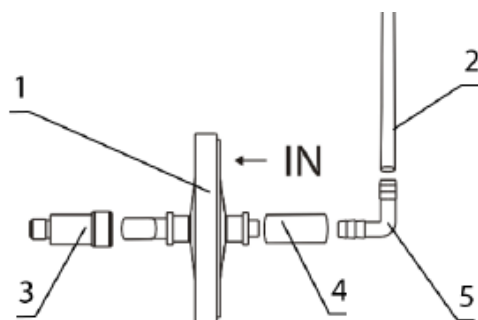
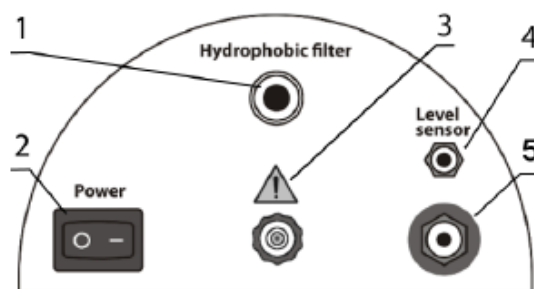
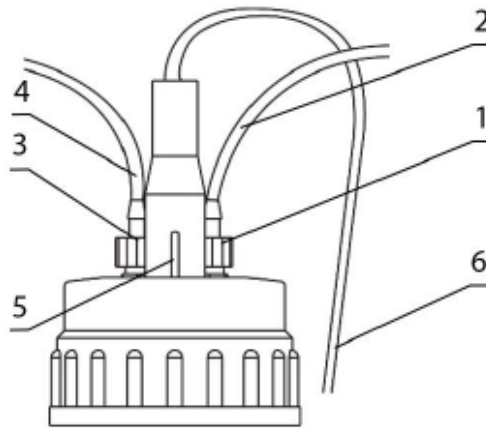

Figure 6. FTA-2i filter setup.
Figure 7. FTA-2i rear panel.
Figure 4. FTA-2i lid with sensor and tubing
1. Lid (see fig. 4). 2. Trap flask.
- Assemble the filter set (figure 6) and connect it to the port on the rear panel of the unit (fig. 7/1).
Caution: Position the filter with the IN marking pointing away from the unit (fig. 6/1).
- Attach the fitting (fig. 4/1) of the tubing to the filter (fig. 4/2) to the valve with white ring on the lid.
- Ensure that the filter set is tightly fixed in the slot (fig. 7/1).
- Attach the fitting (fig. 4/3) of the tubing for liquids (fig. 4/4 and 5/3) to the valve with the blue ring on the lid.
- Connect the sensor cable (fig. 4/5) to the lid of the unit and to the port on the rear panel of the unit (fig. 7/4).
- Connect the external power supply unit to the socket at the rear side of the unit (fig. 7/5) and position the unit for an easy access to the external power supply and the power switch.
Different aerosols and vapours from volatile and hazardous agents can have a damaging effect on the specific parts of the units. Please see below for FTA-1 and FTA-2i material compatibility tables 1 and 2 with different common laboratory chemicals. It is required to use the FTA-2i pump's exhaust (fig. 7/3) by connecting it to the means of required filtration through a tube or, alternatively, by placing the unit in a fume hood when working with volatile and hazardous agents. FTA-1 does not have pump exhaust connector available; therefore, it is obligatory to place the unit in a fume hood. It is suggested to test the compatibility of related parts to a specific chemical prior to extensive use. Biosan does not warrant that the data in the tables is correct or comprehensive and that any material is fit for any purpose.